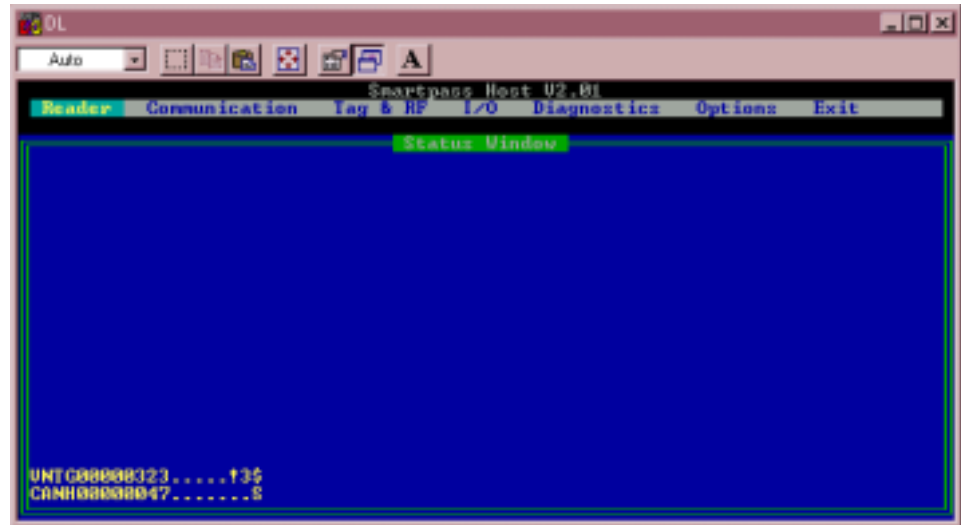

Figure 1-18 Second Successful Tag Read
4. When SmartPass reads the second tag successfully, SmartPass Host displays that tag's information in the status window below the information for the first tag, as shown in Figure 1-18.